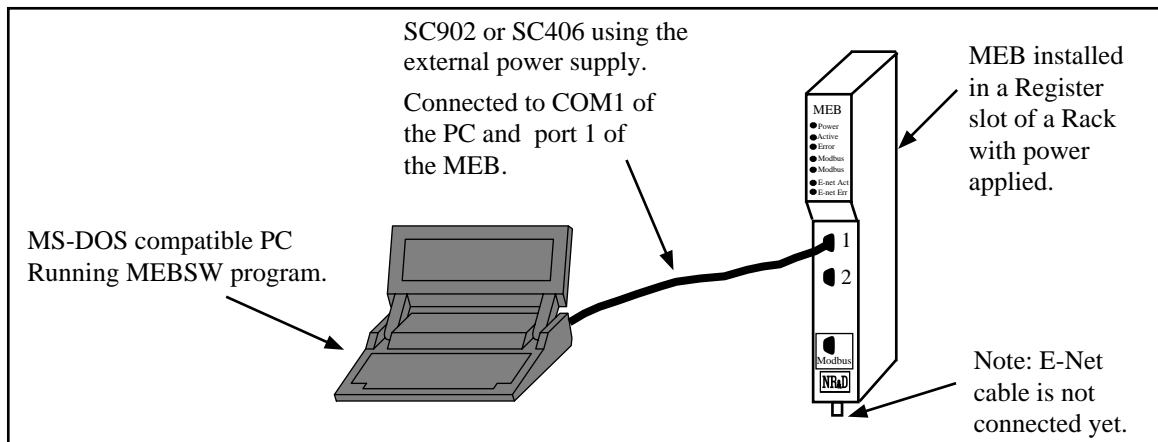

Figure 2-3 MEB Initial Configuration Setup
- 1 Connect the personal computer to the MEB using a RS-422 connection. The MEB should receive its initial configuration by direct connection from an MS/DOS® personal computer COM: port (See Figure 2-3). Niobrara's SC406 (or SC902) RS-232 to RS-422 converter cable can be used to make this connection. Ports 1 and 2 provide full handshaking of the RTS/CTS pins and do not provide power for the smart cable. **The external power supply for the Smart Cable must be used.** The
If an error occurs in communicating with the MEB, an error window will open in the lower right corner. F10 will clear the error. Check the COM port setting, route setting, and your cabling. For a direct connection as in Figure 2-3, the default settings should work. For more information about the setup parameters of MEBSW see page 146.